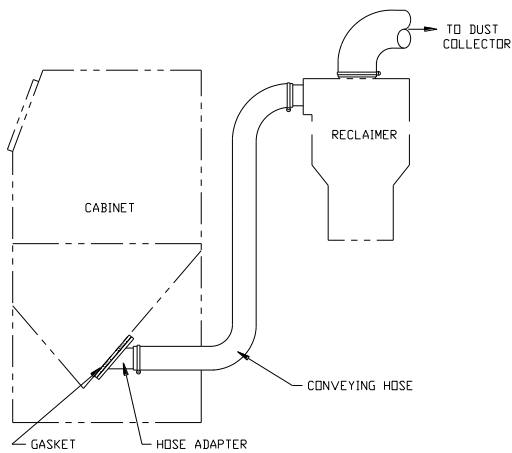

Figure 3. Conveying Hose Installation or Assembly
Step 4: Attach one end of the conveying hose to the cabinet hose adapter. Attach the other end of the hose to the reclaimer inlet. See Figure 3. Use supplied hose clamp to make connections airtight.